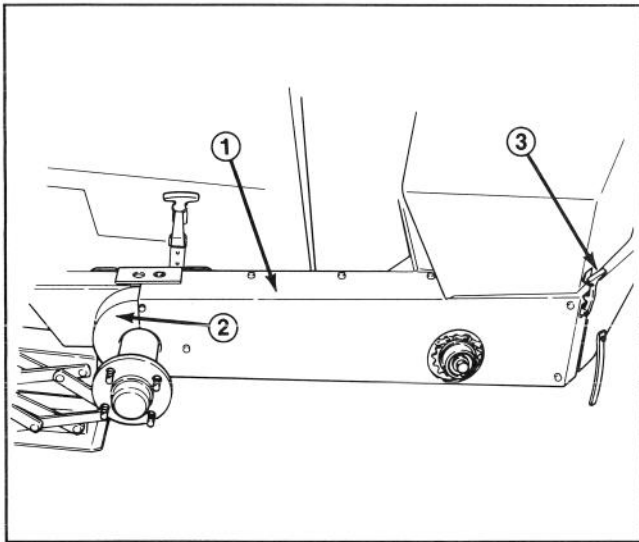

Figure 6
3. Slide chain guard onto chassis aligning mounting holes (Fig. 6).
5. Slide sprocket guard into position aligning mounting holes. Front tab to be positioned under chain guard (Fig. 6).
6. Secure rear of sprocket guard to chassis with a 1/4-20x3/4" lg. self tapping screw. (Fig. 6).
7. Secure front of sprocket guard and (4) remaining chain guard mounting holes to chassis with (5) 1/4"-20x3/4" lg. self tapping screws. Tighten all fasteners.
8. Hook latch securing clutch cover to chain guard (Fig. 6).
9. Remove capscrew, lockwasher, washer and special nut securing idler sprocket to chassis (Fig. 6).